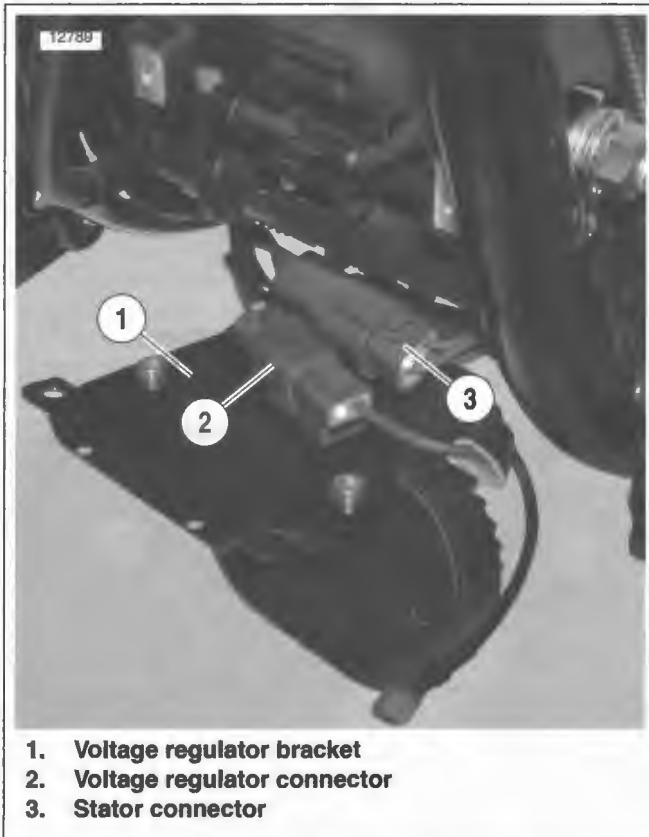

Figure 8-24. Stator Connector
9. See Figure 8-24. Disconnect voltage regulator connector (2) [77] and stator connector (3) [46] from voltage regulator bracket.
5. See Figure 8-24. Connect voltage regulator (2) [77] and stator (3) [46] connector halves.
6. Install voltage regulator and stator connectors on voltage regulator bracket (1).